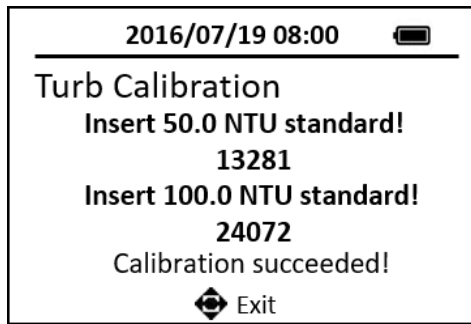

Figure 21 High Range Calibration
11. Press the **OK** key to measure the selected standard. High range turbidity calibration is successful. (Figure 21)
When connected, the device information will be uploaded and displayed, only the device name is allowed to change as Fig 21 shows